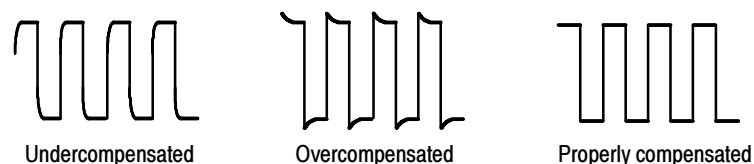

Figure 1: Probe compensation waveforms
3. Adjust the trimmer in the probe (accessible through the compensation box) until you see a perfectly flat-top square wave on the display. See Figure 1.